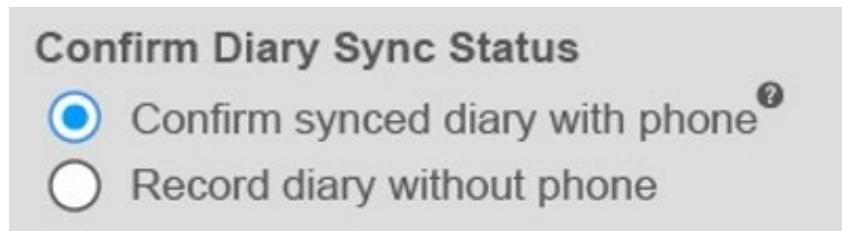

Figure 4-11 Confirm Diary Sync Status
② Displays the case information stored in the current recorder.
③ Shows the export progress once the data export begins.
4) The Data Export window lists the connected recorders. Select the recorder needing data export (red mark) and confirm whether the diary on the mobile phone has synced with the recorder (for confirmation method, refer to Section 4.4.1.1: Syncing Diary Data), then check the options as necessary (as shown in Figure 4-11).